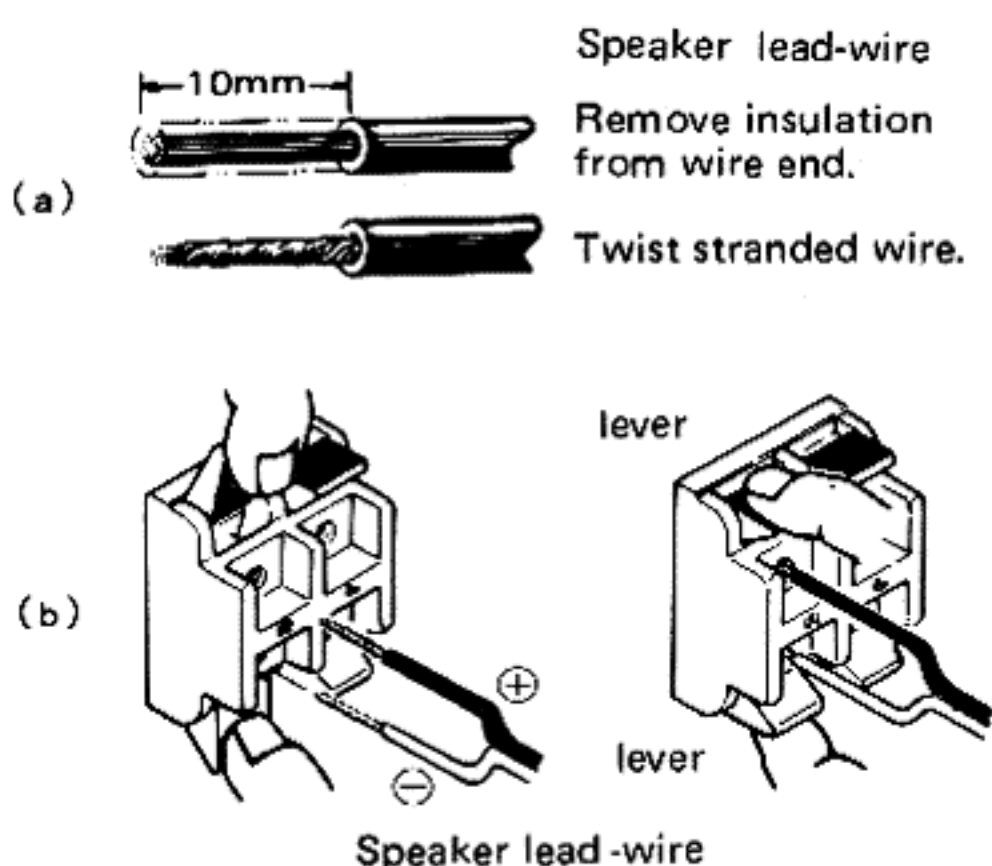

Fig. 3
- As shown in Fig. 3, the upper socket (red) is the positive (+) terminal, and the lower (black) is the negative (—) terminal in each case.
Connecting the leads (see Fig. 3)